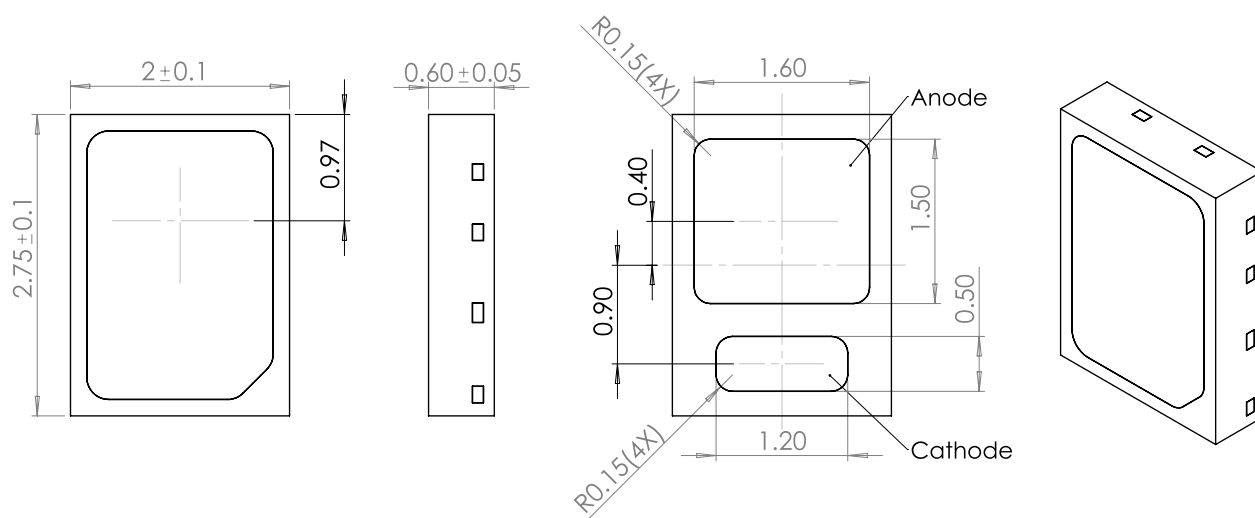

Figure 8. Mechanical dimensions for LUXEON IR ONYX.
Notes for Figure 8:
- Notes for Figure 8: